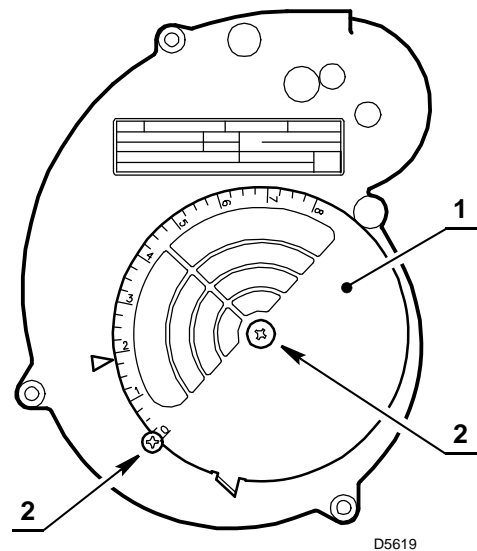

Fig. 16
The regulation of the air-rate is made by adjusting the air damper (1), after loosening the screws (2) (Fig. 16).
When the optimal regulation is reached, screw tight the screws (2) (Fig. 16).